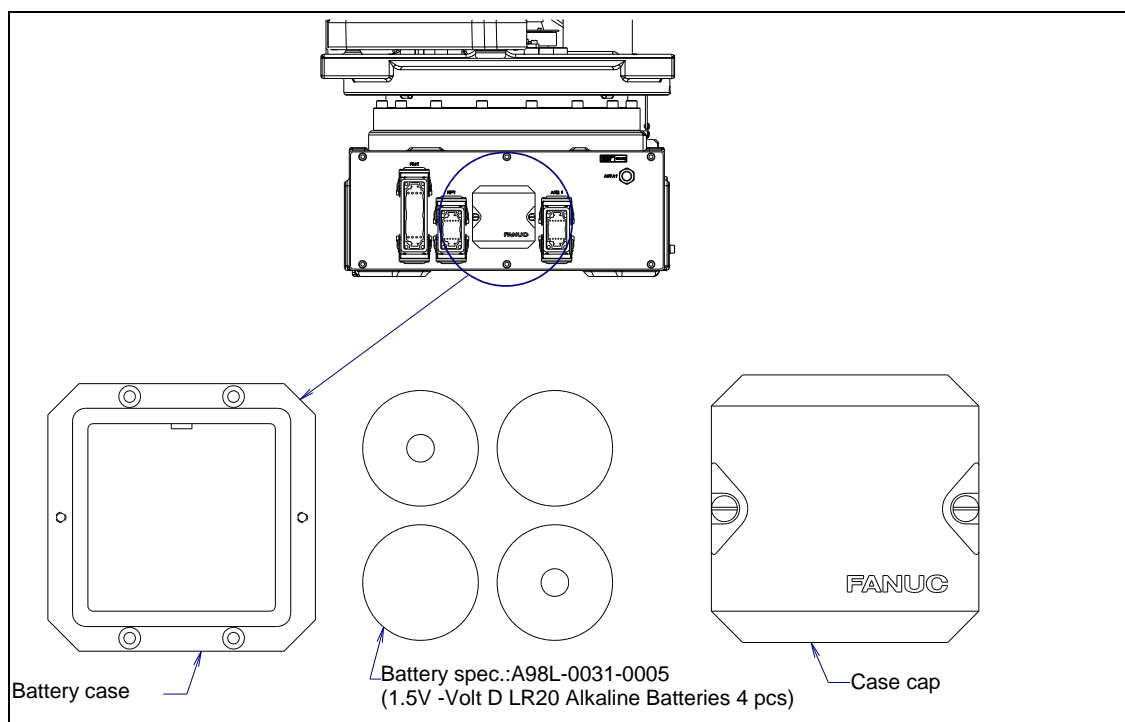

Fig. 7.3.1 (a) Replacing the battery
- 2 Remove the battery case cap. (Fig. 7.3.1 (a))